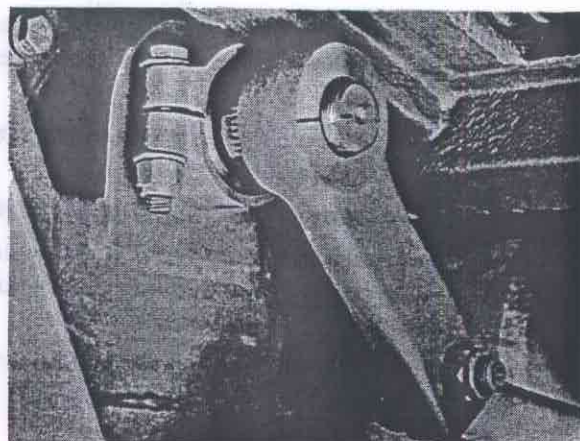

Fig. 64-7. Marking up pitman arm - sector shaft
5. Place the pitman arm according to the marking on Fig. 64-7. Tighten the nut to a torque of 250-350 Nm (25-35 kpm = 180-253 lbftf) and lock the nut with the lock washer.